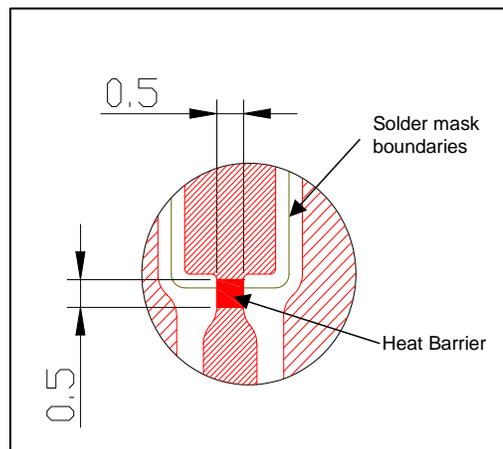

Figure 3
- Create a heat barrier in between the solder pad and the electrical connection. Large areas of copper connected to the solder pad will draw heat away from the solder pad. This makes it more difficult to reach the required solder temperature and increases the time required to form the solder joint (see figure 3).